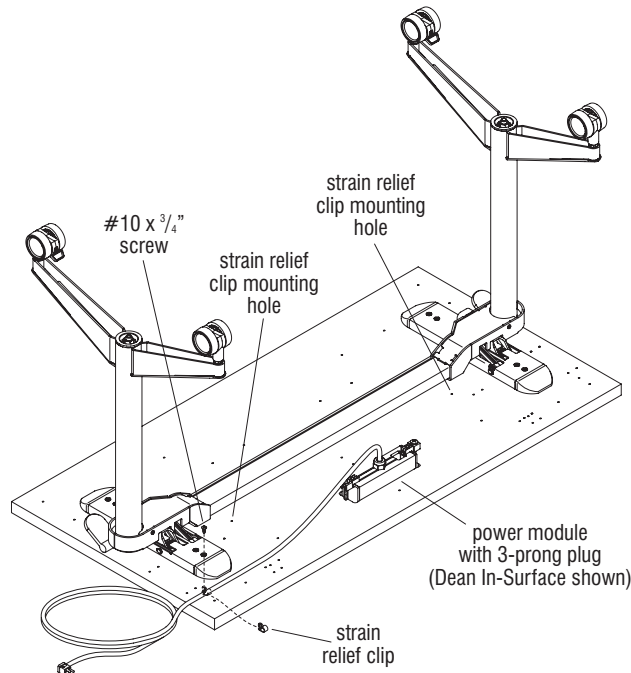

Figure 4
1. Locate strain relief clips and position them at the desired locations above unused pre-drilled holes (Figure 4 & Detail C).
2. Insert the cable into the openings of the clips. Secure the clips to the tabletop using one #10 x 3/4 inch screw per clip (Figure 4 & Detail C).